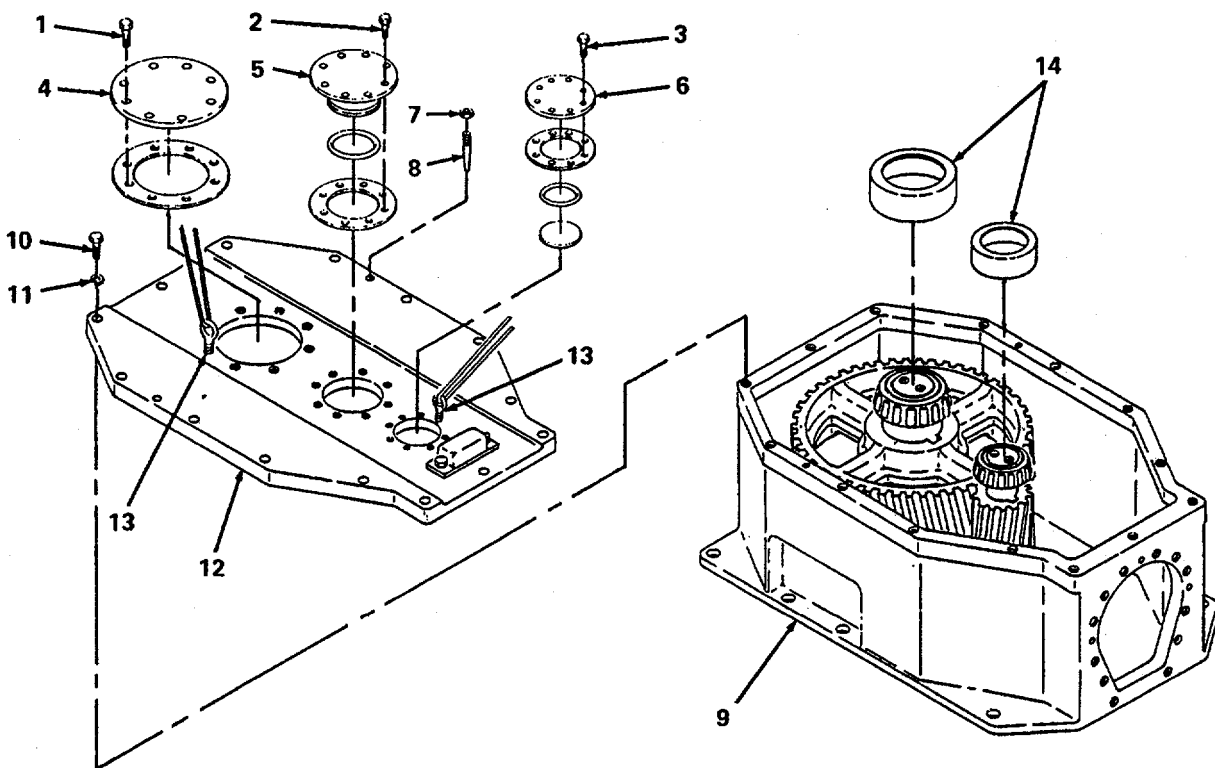

Figure 6-12. Main Cover Removal
(2) Remove main cover.
- (a) Remove eight screws (1, figure 6-12) eight screws (2), and eight screws (3) and remove three end covers (4), (5), and (6), respectively.